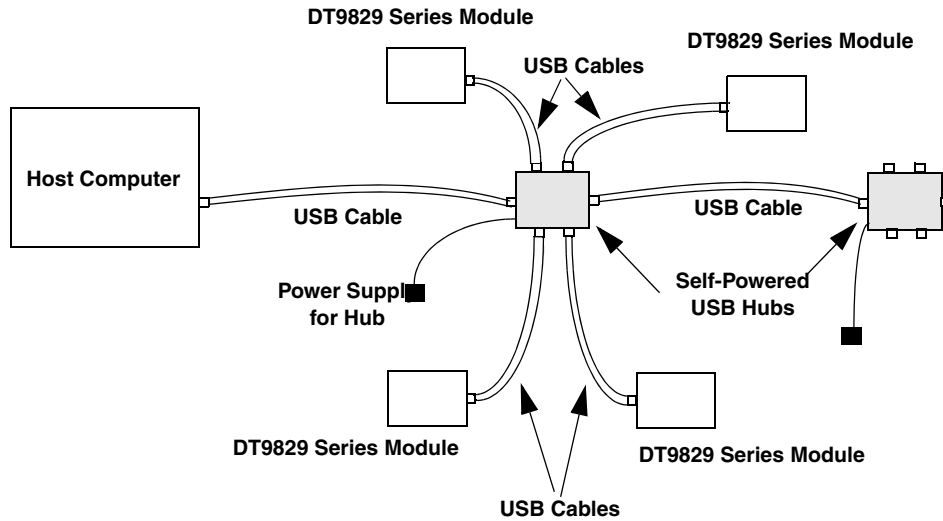

Figure 5: Attaching Multiple Modules Using Expansion Hubs
5. Repeat these steps until you have attached the number of hubs and modules that you desire. Refer to Figure 5.